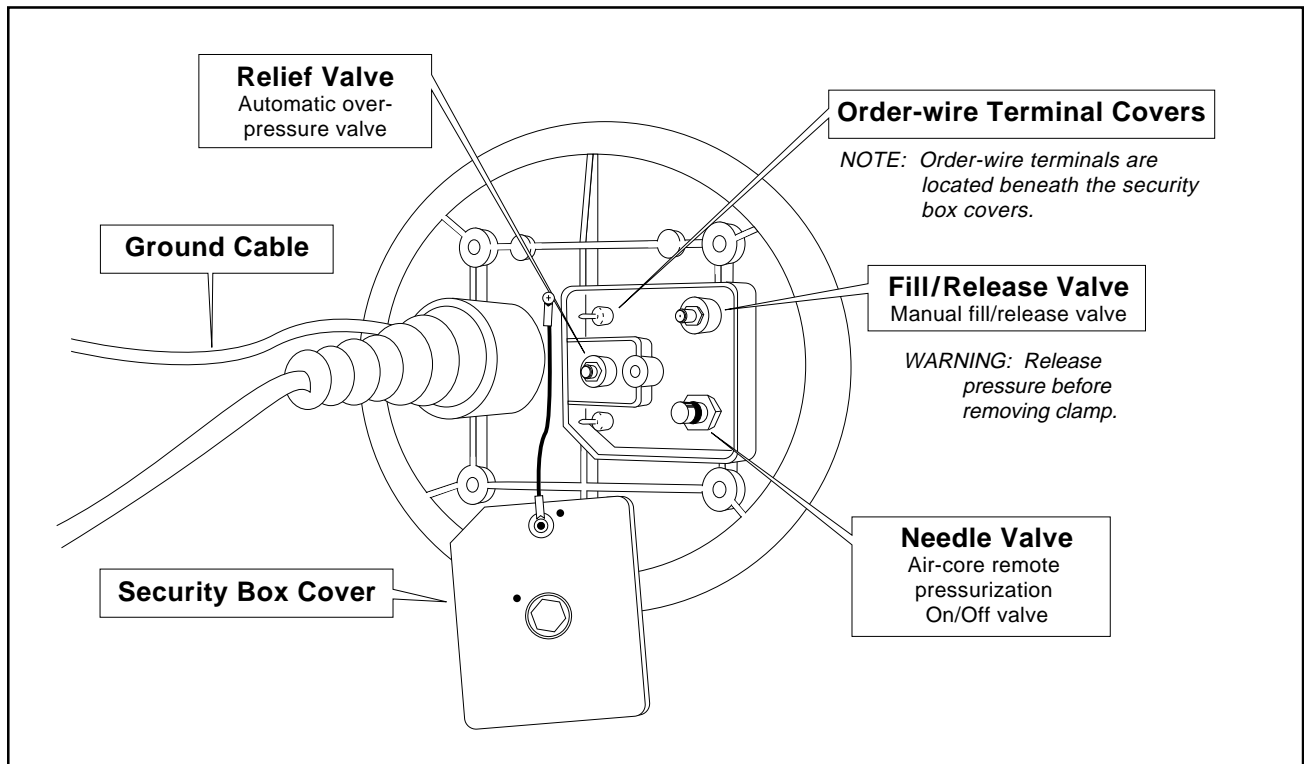

Figure 3. Location of Security Box, Valves, Order Wires, and Ground Cable on Base Bottom
| Figure 3. Location of Security Box, Valves, Order Wires, and Ground Cable on Base Bottom | 3 |
The locations of the security box, valves, order wires, and the ground cable are illustrated in Figure 3.
- (1) Remove the security box cover located on the bottom of the housing base using a nut driver to loosen the 7/16-inch bolt.
- (2) For List 1 (air-core) only: Verify that the needle valve is closed by hand-tightening clockwise. DO NOT OVERTIGHTEN. See Figure 3.
- (3) Remove fill valve cap.
- (4) On both models: Fully depress the needle in the fill valve for at least 30 seconds to ensure pressure release.